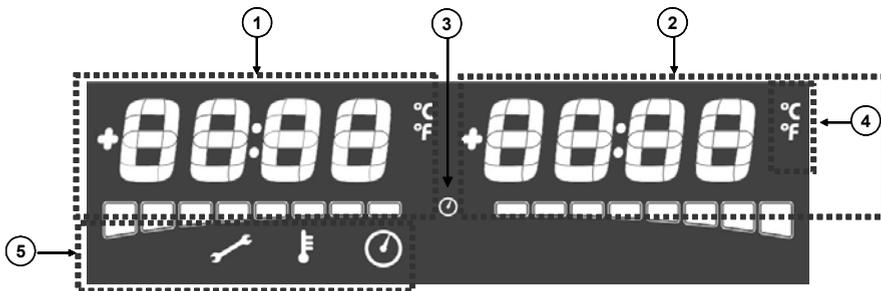

Figure 5 : Display
This is located on the left lower part of the Display (Ref. (5), Figure 5) and informs, by means of symbols, of alarm situations during initialisation or incubation batch. These symbols are described below. For more information, consult section 12.1 "Warnings or Incidences".